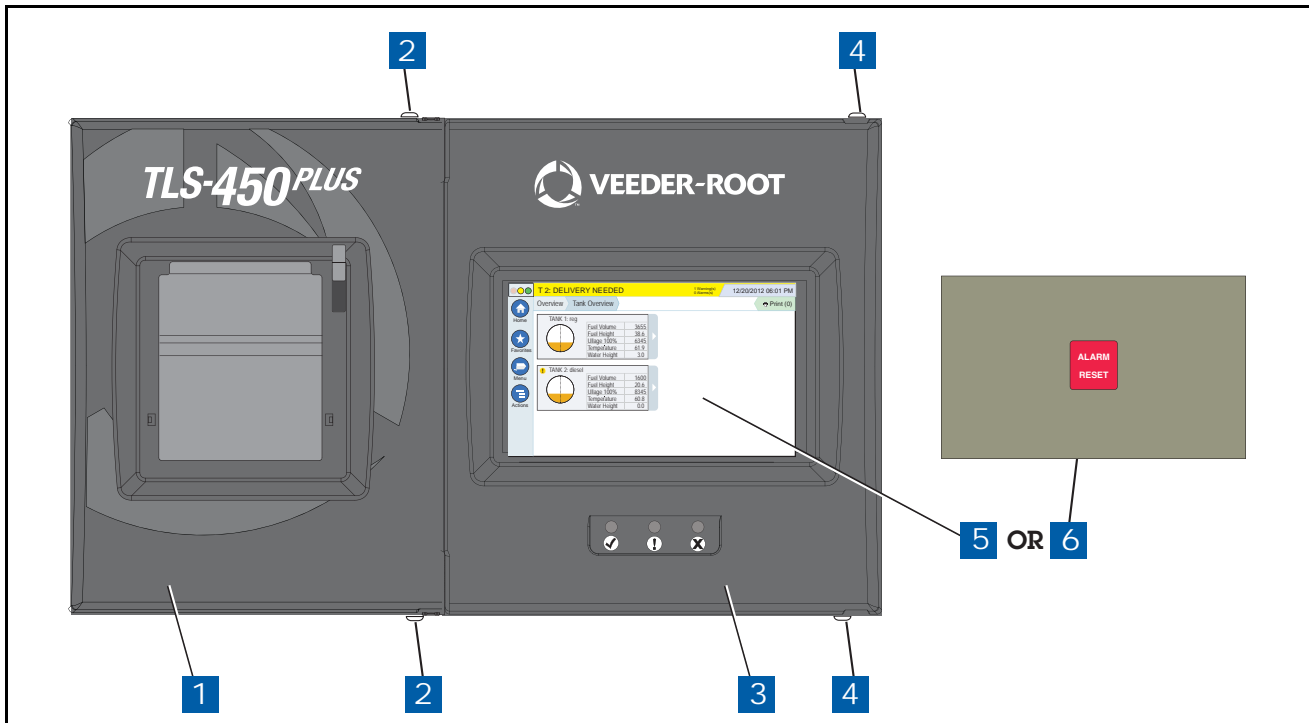

Figure 4. Opening The TLS-450PLUS Console Doors
2. Remove the both left and right door screws (with a T-15 Torx driver) and swing open both doors to the left (see Figure 4).
LEGEND FOR NUMBERED BOXES IN Figure 4
2. Referencing Figure 4, open the left and right doors of the console.